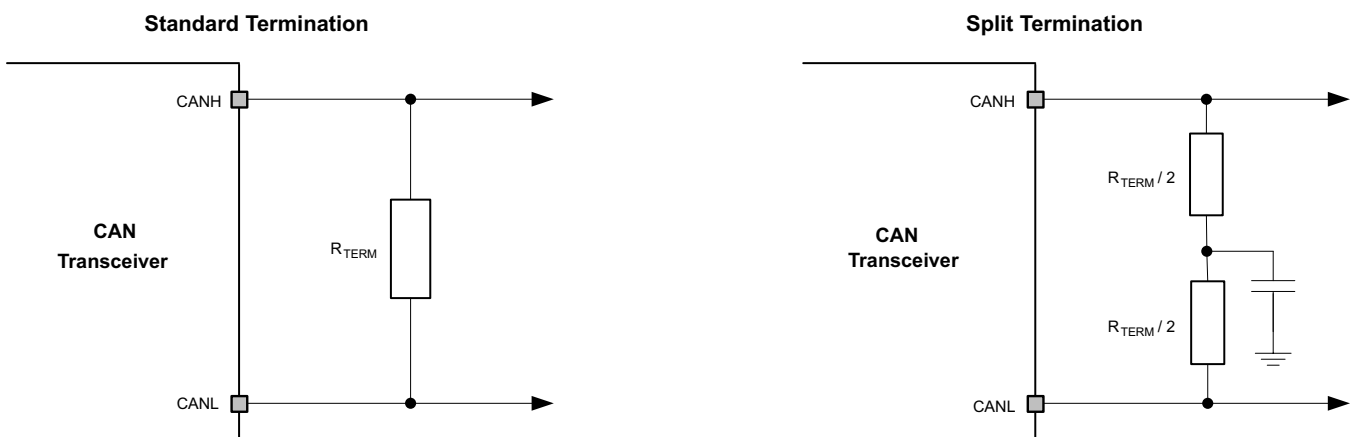

Figure 22. CAN Termination Schematic
Termination is typically a 120- $\Omega$  resistor at each end of the bus. If filtering and stabilization of the common-mode voltage of the bus is desired, then split termination may be used (see Figure 22 and Using SPLIT With Split Termination).
- Bus termination: Figure 22 shows split termination. This is where the termination is split into two resistors, R5 and R6, with the center or split tap of the termination connected to ground through capacitor C6. Split termination provides common-mode filtering for the bus. When termination is placed on the board instead of directly on the bus, care must be taken to ensure the terminating node is not removed from the bus as this causes signal integrity issues if the bus is not properly terminated on both ends.